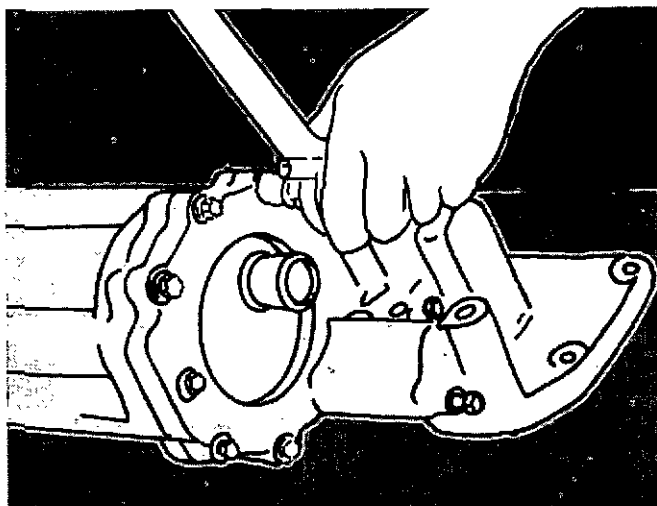

Fig. 7-36. Tighten The Capscrews For The Cover.
10. Tighten all of the capscrews to 15 to 20 ft.-lbs. [20 to 27 N•m] torque, Fig. 7-36.